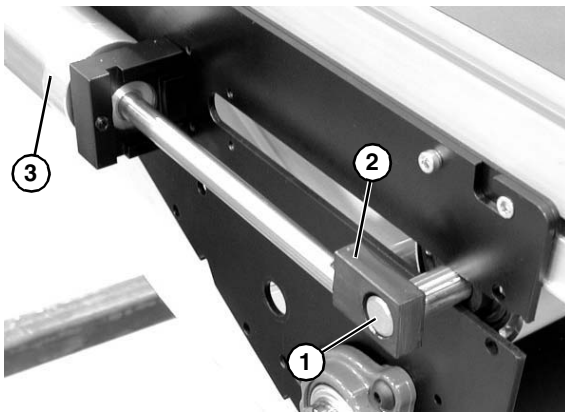

Figure 26
9. Push shaft (**Figure 26, item 1**) through block (**Figure 26, item 2**) on opposite side of center drive, slide block toward air cylinder (**Figure 26, item 3**).